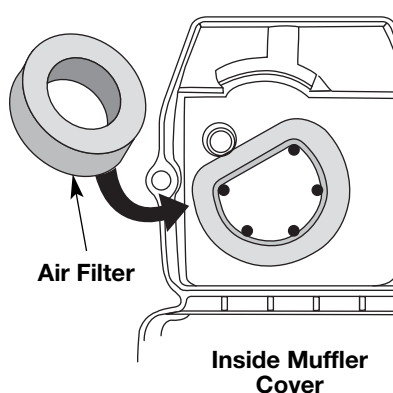

Fig. 25
- Turn cover over and look inside to locate the air filter. Remove the air filter from inside the air filter/muffler cover (Fig. 25).
- Replace the air filter inside the air filter/muffler cover (Fig. 25).